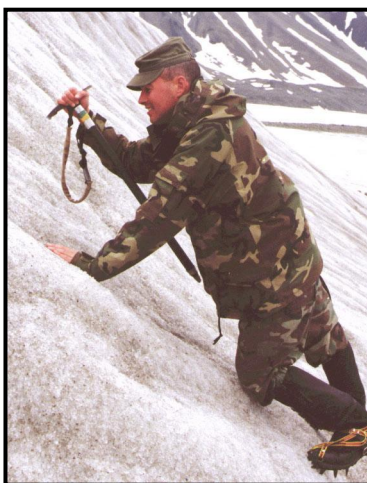

Figure 10-6. Ice ax in the dagger position.
(5) ***Dagger Position.*** The dagger position is used on steep slopes to place a handhold above shoulder height (Figure 10-6). The hand grasps the head of the ax with the pick forward and the shaft hanging down. The ax is driven into the surface in a stabbing action. The hand is then placed on the ax head for use as a handhold.